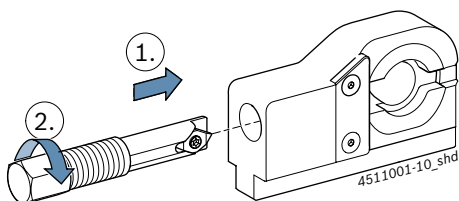

Fig. 11: Fastening the spindle
4. Push the spindle into the dismantling tool as shown in Fig. 11 and screw it in.